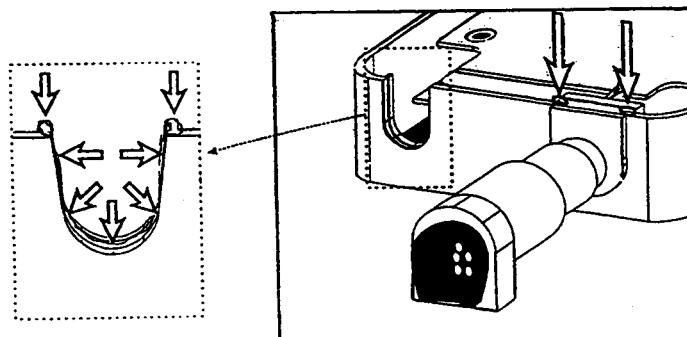

Figure 3-1. Applying sealant to the top bezel
Important: During the manufacture of some 3770/3775 oximeters, a bead of silicone sealant was applied to the IR window and sensor connector cutouts on the top and bottom bezels (see Figures 3-1 and 3-2). The sealant was applied to ensure the waterproof integrity of these oximeters.
- a. If the sealant on the top bezel is not intact, apply new clear silicone rubber adhesive sealant (Dow Corning RTV 3145) to the top bezel above the sensor connector. See Figure 3-1.